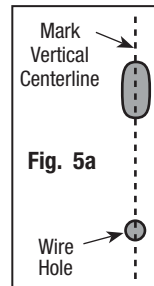

Fig. 5a
Important: If the manufacturer has not pre-drilled the door, prepare the door per instructions below, using plastic template included with the device. Screw hole orientation is not affected by handing. (See Figures 5a-5d). If the door is pre-drilled by the manufacturer, continue to instructions on the following page.
1. Mark vertical centerline of slot and wire hole on door. (See Figure 5a).